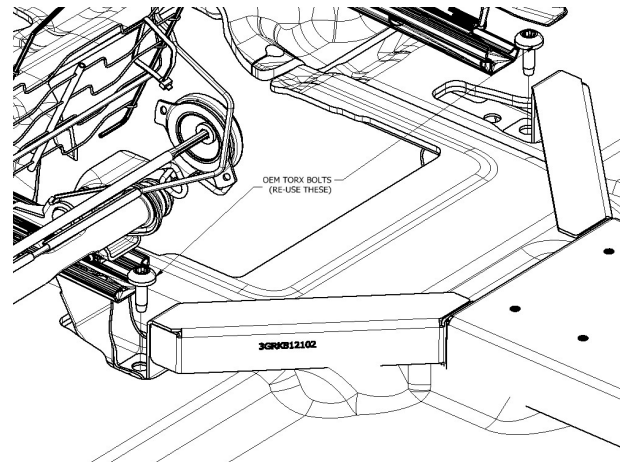

FIGURE 2C
- F. Place the tabs of the Front Legs onto the driver and passenger front seat mounts (Fig. 2C).
- G. Loosely reinstall the (2) OEM bolts removed in steps E back into their respective holes. Reapply thread locker to OEM bolts as necessary.
- H. Use the remaining (4) 3X149 screws to secure the rear bracket to the main base. Tighten all 4 screws.